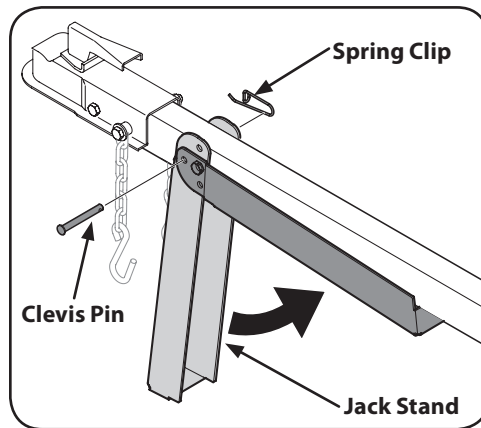

Figure 3-6
3. Support the tongue and pivot the jack stand up against the tongue. See Figure 3-6.
4. Secure with the spring clip and clevis pin previously removed. See Figure 3-6.